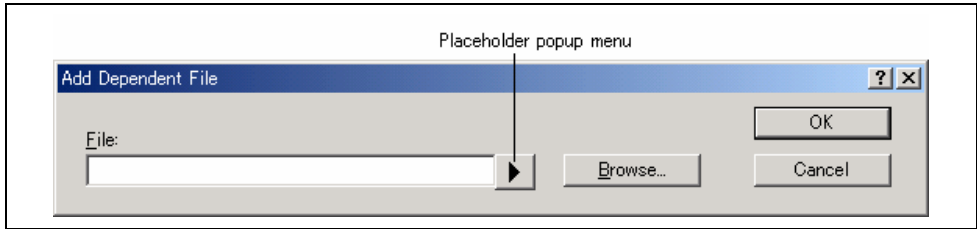

Figure 3.15: Add Dependent File Dialog
1. Click “Add...”. The “Add Dependent File” dialog will be invoked (figure 3.15).
2. Click “Modify...”. The “Modify Dependent File” dialog, which is the same as figure 3.15 except the title, will be invoked.